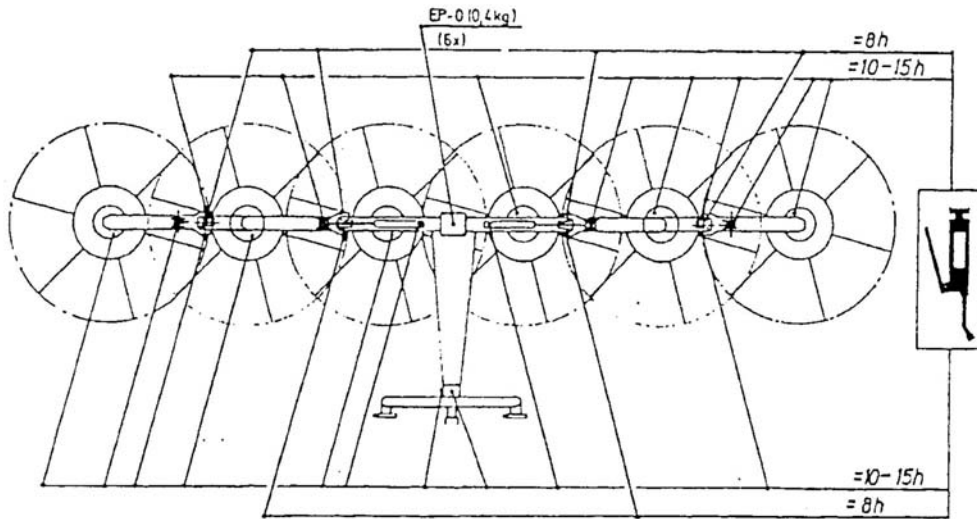

Fig. 6
3. The number of the nipples and the time of each lubricating is to be seen from the lubricating scheme (Fig. 6).